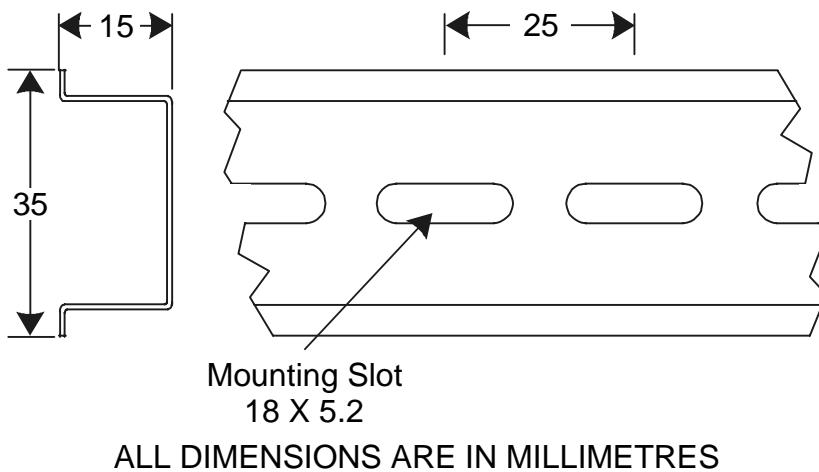

Figure 2-9. DIN Rail Dimensions.
**2-3.1. DIN RAILS.** The DIN rail is an industry-standard item and is available from a large number of commercial sources. The rail is usually manufactured from galvanised steel and may be provided with a finish. It is typically available in 2-metre lengths. DIN rail cutters are available commercially and are recommended; however, for smaller installations, a hacksaw may be used to cut the rails to the required length. Figure 2-9 is provided to assist in planning layout of the LEMs; the figure shows the dimensions of a typical DIN rail section.